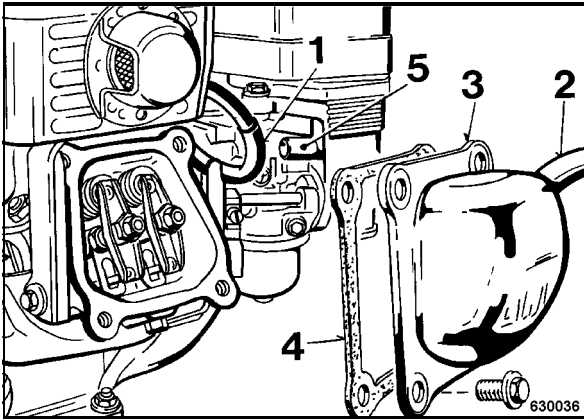

Fig. 43
- Pull spark plug socket 1 (Fig. 43) off.
- Pull ventilation hose (2) off.
- Remove valve cover (3) with seal gasket (4).